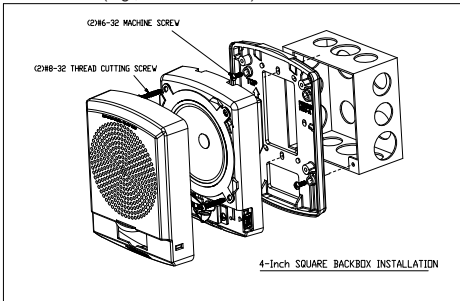
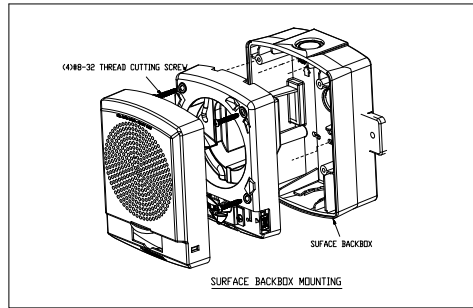
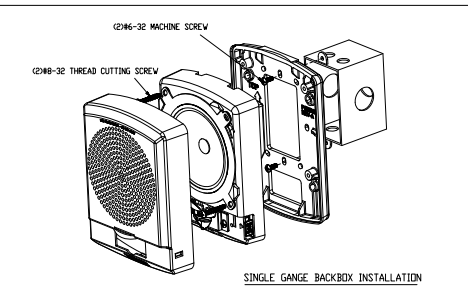
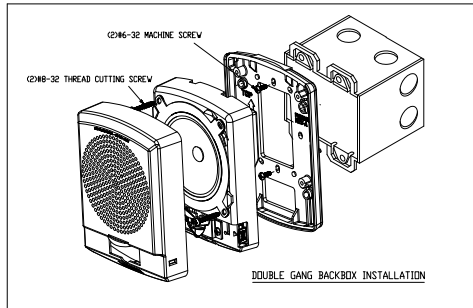

Figure 6: 4-Inch Square Backbox Installation
Figure 7: Surface Backbox Installation
Figure 8: Single Gang Backbox Installation
Figure 9: Double Gang Backbox Installation
3. Install device as shown in Figure 6 to a 4-inch square backbox, Figure 7 to a surface mount backbox, Figure 8 to a single-gang backbox, or Figure 9 to a double gang backbox with the provided pan head screws.